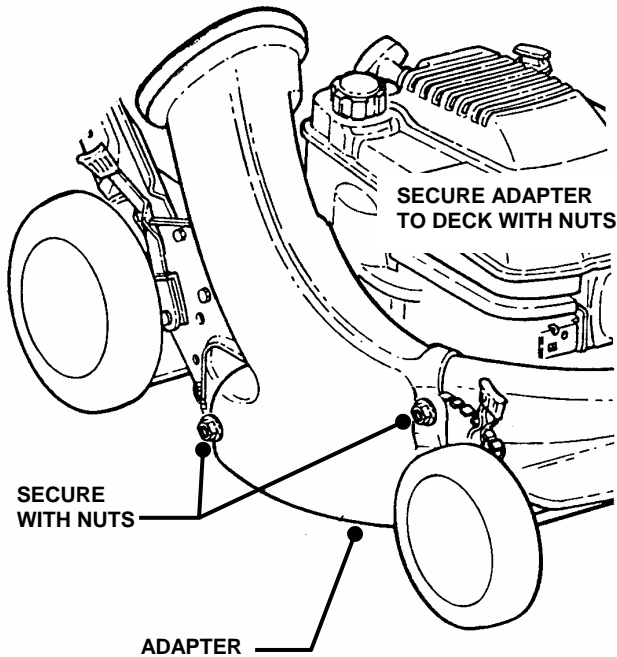

FIGURE 2.11
STEP 1: Install the grass bag adapter and secure to the side and top of the deck with the two nuts provided on the machine. Slot in front edge of adapter must be under nut located on top of deck. See Figure 2.11.